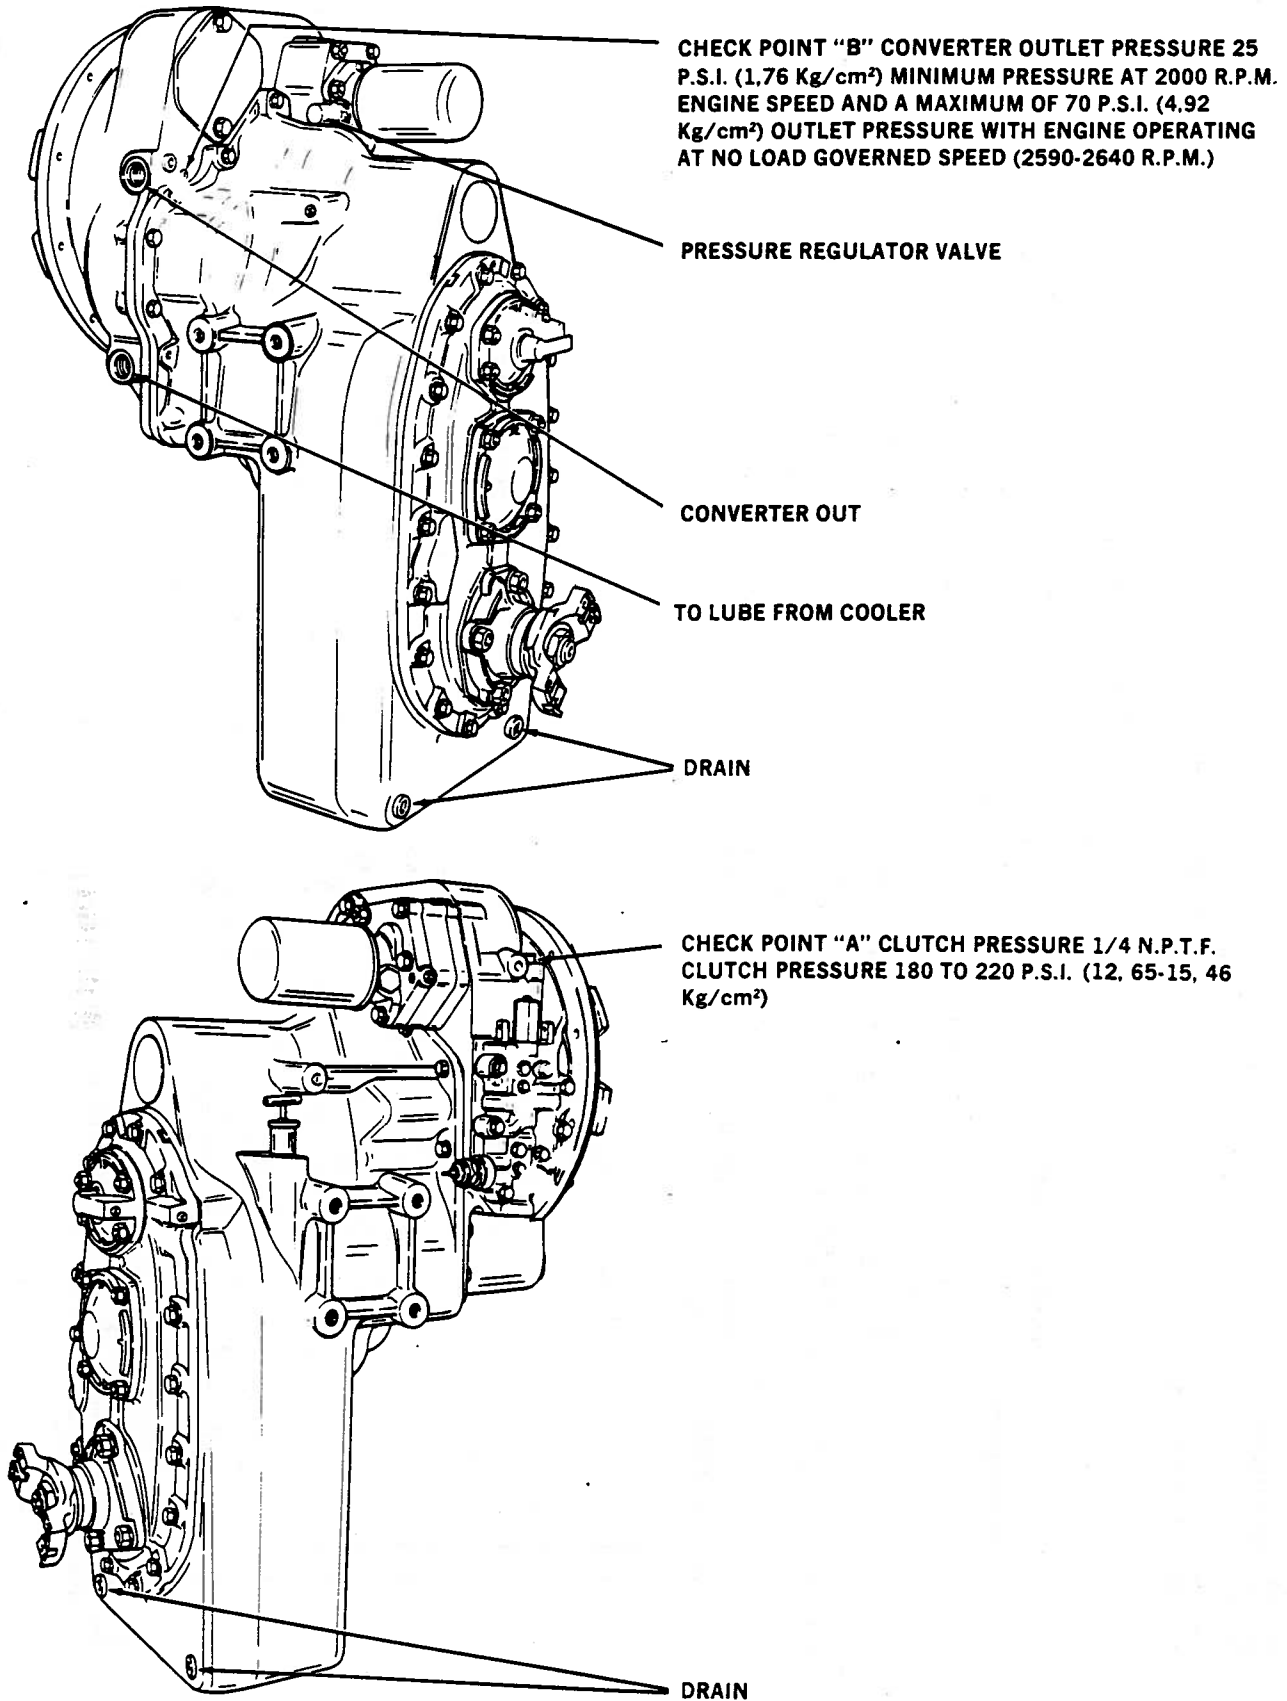

Figure 4-3. Transmission Check Points
- a. Remove plug at check point A (figure 4-3) and install pressure gage (0-3000 psi).
a. Remove plug at check point B (figure 4-3) and install pressure gage (0-3000 psi).
a. Install pressure gage (0-3000 psi) in "converter out" line (figure 4-3).
b. Install another pressure gage in "lube from cooler" line (figure 4-3).